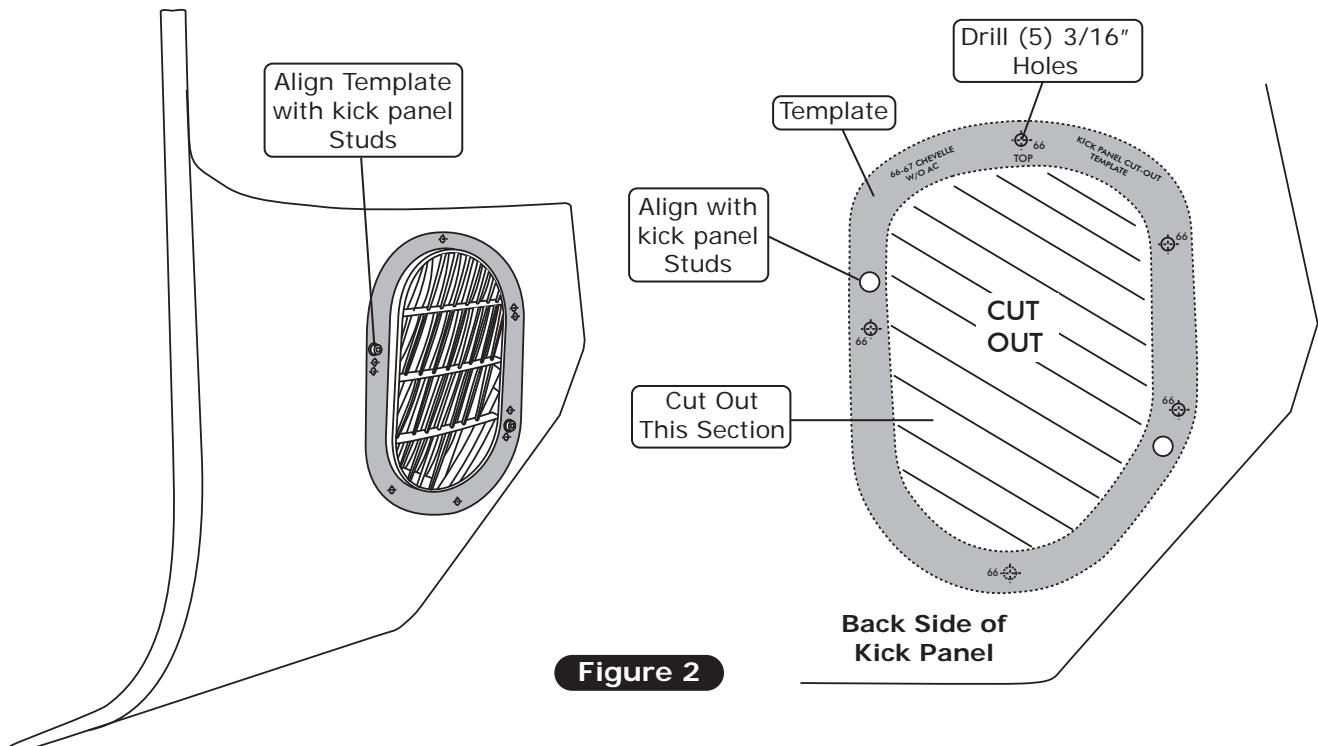

Figure 2
5. Align the template onto the back side of the kick panel as shown in Figure 2, below.
6. Cut out the kick panel grille as shown in Figure 2, below.
7. Drill (5) 3/16" holes into the kick panel (See Figure 2, below).